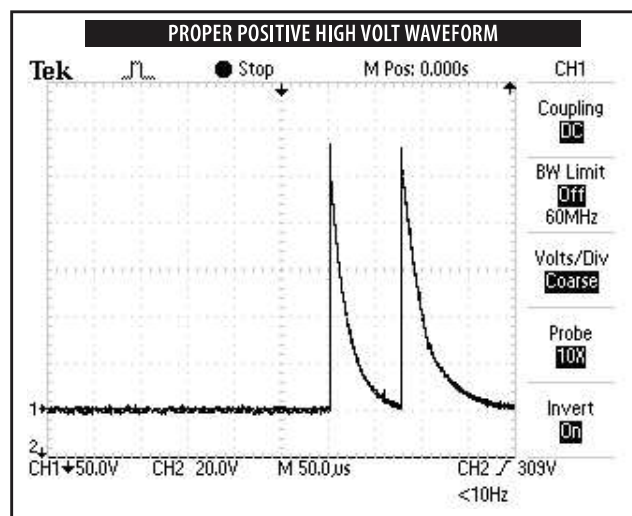

FIGURE 5.13
9. Compare waveform form on scope to **Figure 5.13**.